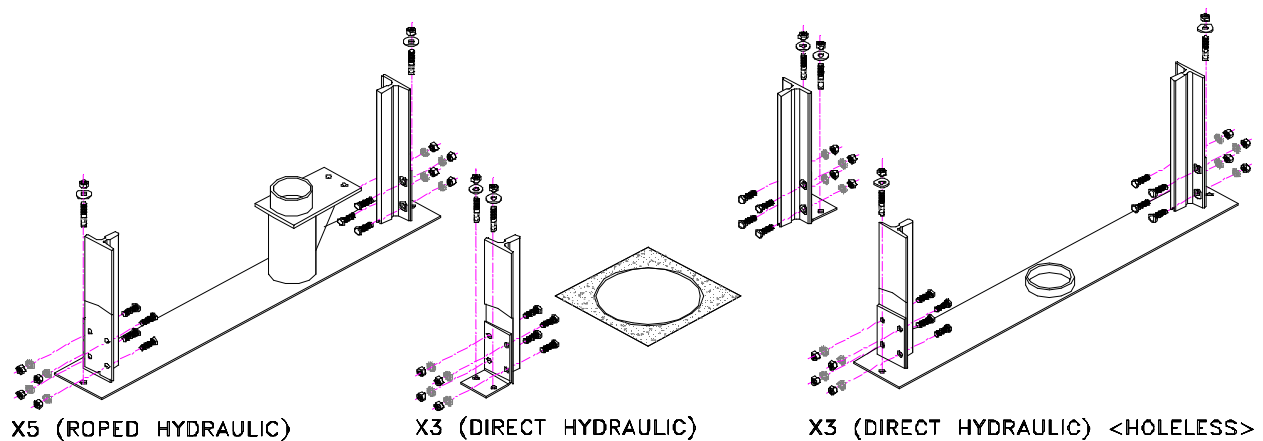

Figure 2
3. Loosely install bottom rail brackets to bottom (female) end of rails. If you have a roped (X5) type installation, the bottom rail brackets are part of the bottom plate, which is installed now as shown in <Fig. 2>.